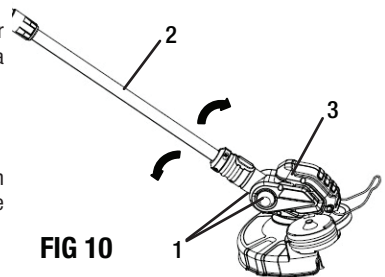

FIG 10
## TILTING THE MOTOR HEAD (FIG 10)
1. Press the tilt buttons (1) on the both sides of the motor head (3).
2. Tilt the shaft (2) against the motor head to the desired angle as shown in Fig 10. A click sound indicates the shaft is locked in one of the positions.